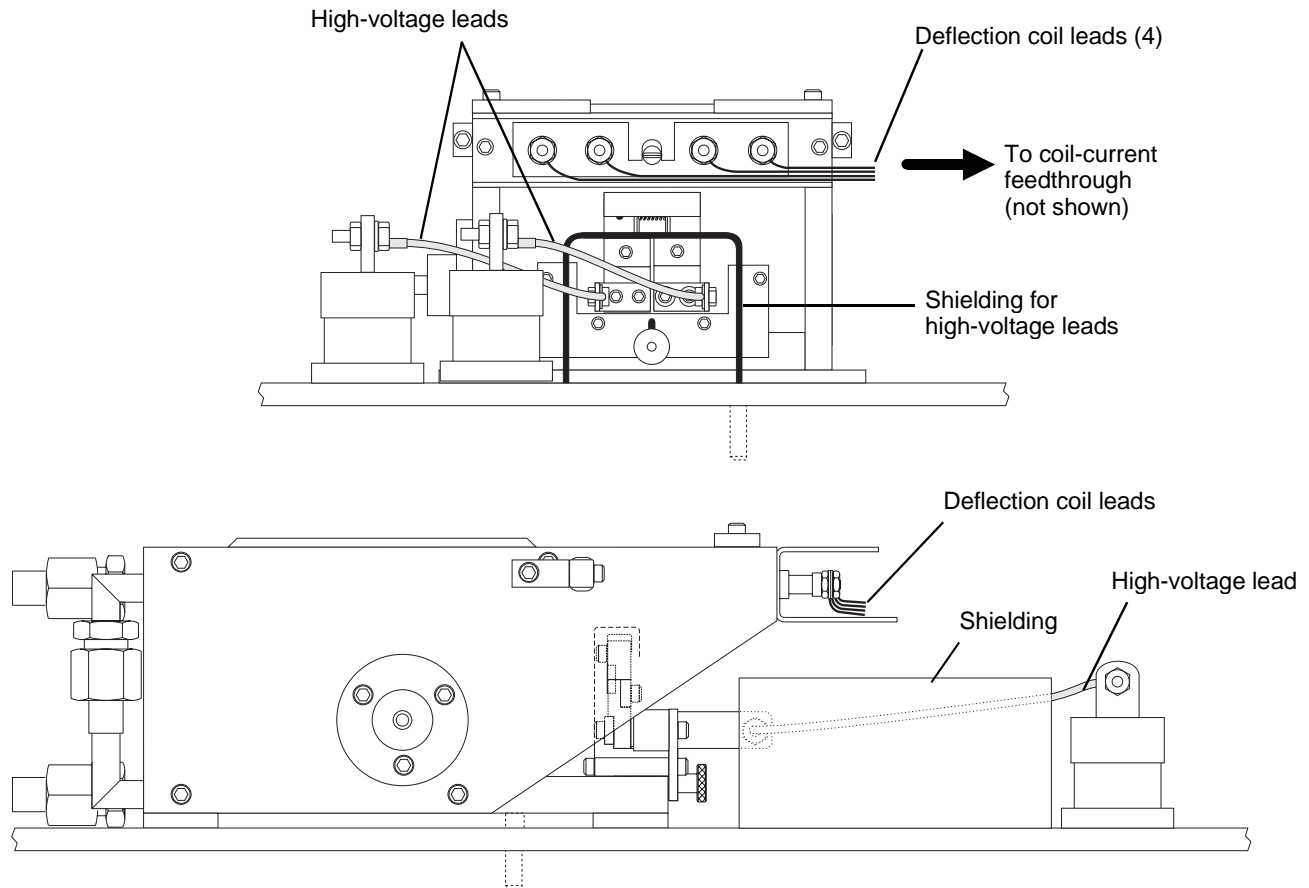

Figure 2-2. Correct placement of high-voltage shielding
- Some form of shielding to prevent loose material in the vacuum chamber from coming into contact with high-voltage components. Over a period of time, evaporant material accumulates on the inner surfaces of the chamber. As this material flakes off, some of it will fall onto high-voltage components unless they are shielded, resulting in severe arcing. The preferable solution is to install full debris shields, which fit tightly around the top of the source and extend to the chamber walls. If your system will not have full debris shields, then it is essential to install a smaller shield like that shown in Figure 2-2 over the high-voltage leads.
Next determine where the feedthroughs will be mounted, as their placement depends on where the source is mounted. The water feedthrough should be somewhere behind the source. The high-voltage feedthroughs should be mounted beside each other somewhere in front of the source, or perhaps slightly off to one side, as shown in Figure 2-1. The octal feedthrough should be mounted off to the other side of the source, ideally as far from the high-voltage feedthroughs as possible. Do NOT mount all three electrical feedthroughs in front of the source, with the octal feedthrough positioned between the two high-voltage feedthroughs. This mounting arrangement makes it impossible to isolate the coil-current leads from the effects of the high-voltage. It is critical to provide this protection for the deflection coil leads. This can be accomplished simply by mounting the octal so that the deflection coil leads run along the lower lip of the coil shield and toward the side of the gun opposite the high-voltage feedthroughs, as shown in Figure 2-1. With the leads routed this way, the coil shield provides adequate isolation from the high voltage. If the coil shield cannot be used to provide the required isolation, it will be necessary to install a stainless steel high-voltage shield like the one shown in Figure 2-2.
| 1 | If your source tray is not fitted with full debris shields, install a shield that will cover the in-vacuum high voltage leads and as much of the emitter assembly's filament bus bars as possible (see Figure 2-2). This shield should be made of type-304 stainless steel, and it should be placed so that no part of it is closer than 1/4" to either of the the high-voltage feedthroughs. There should be no grounded components within the shielded area. |